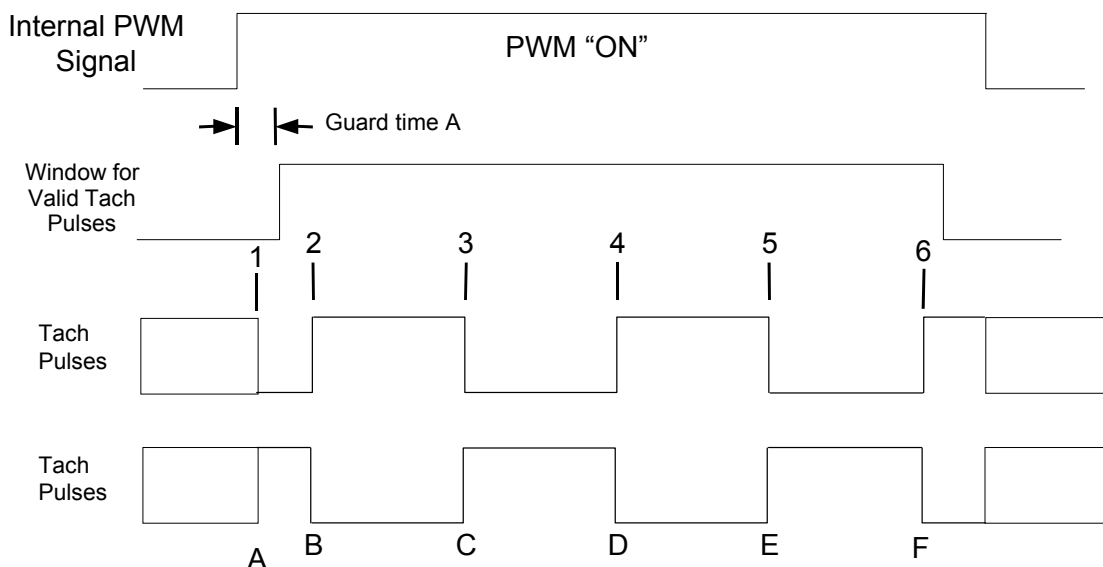

Figure 7.5 PWM and Tachometer Concept
ASSUMPTIONS (REFER TO FIGURE 7.5, "PWM AND TACHOMETER CONCEPT"):
The Tachometer pulse generates 5 transitions per fan revolution (i.e., two fan tachometer periods per revolution, edges 2→6). One half of a revolution (one tachometer period) is equivalent to three edges (2→4 or 3→5). One quarter of a revolution (one-half tachometer period) is equivalent to two edges. To obtain the fan speed, count the number of 90Khz pulses that occurs between 2 edges i.e., 2→3, between 3 edges i.e., 2→4, or between 5 edges, i.e. 2→6 (the case of 9 edges is not shown). The time from 1-2 occurs through the guard time and is not to be used. For the discussion below, an edge is a high-to-low or low-to-high transition (edges are numbered – refer to Figure 7.5, "PWM and Tachometer Concept").
- 2, 3, 5 or 9 “edges” to calculate the fan speed (Figure 7.5)
- Guard time A is programmable (8-63 clocks) to account for delays in the system (Figure 7.5)